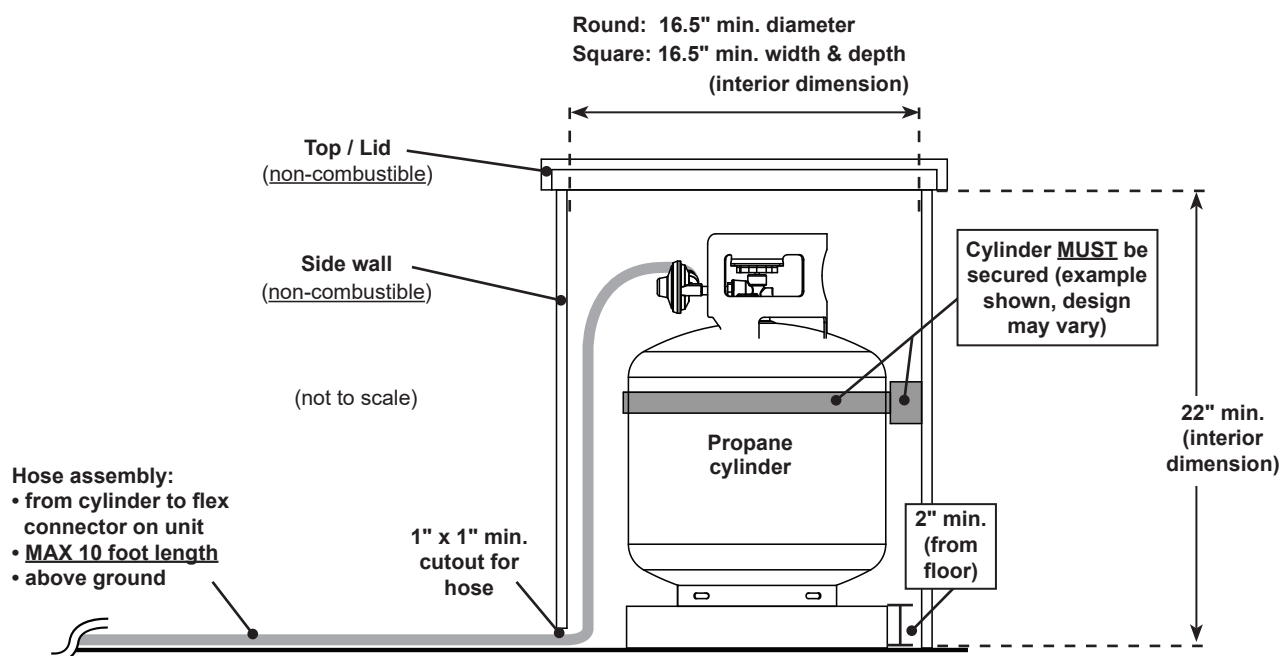

Fig. 9-1 Propane cylinder enclosure specifications (side view)
The cylinder enclosure can be constructed according to your individual preference, while following all guidelines found in this manual. **The enclosure MUST (see Fig. 9-1):**
- have minimum dimensions as illustrated in Fig. 9-1